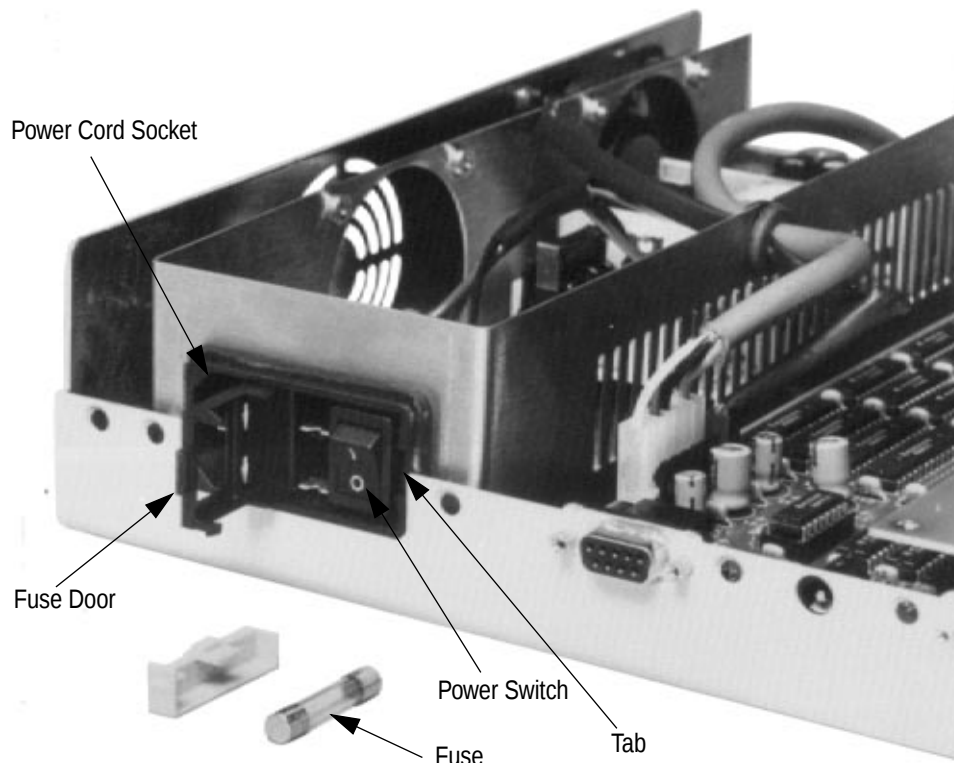

Figure 3. Power Switch/Connector Assembly
The station module power switch/connector assembly contains a standard 1/4 x 1 1/4 inch, 1.6-ampere, 250-volt ceramic, time-delay fuse. **Figure 3** shows this assembly with its door open (for fuse replacement).
- Insert a small screwdriver at the tab on the right edge of the switch/connector assembly. (Figure 3 shows where to insert the screwdriver.) Gently pry open the assembly door, which swings open to the left.